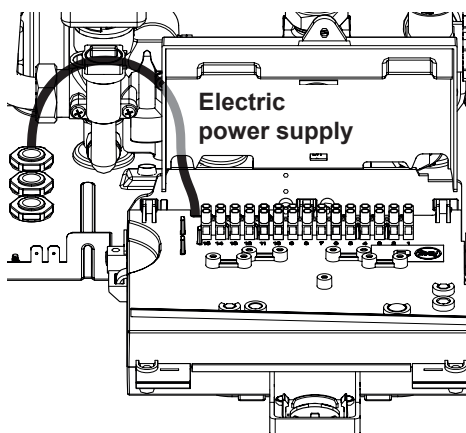

Fig. 6.17
- Connect the electric power supply cable coming from the fused spur isolation switch to the power supply terminal block of the boiler Fig. 6.17 keeping the same connections for the live (brown wire) and the neutral (blue wire). External 3A fuse or fused plug with same current rating is recommended.
Use the clamps indicated in Fig. 6.17 to connect the ambient thermostat.